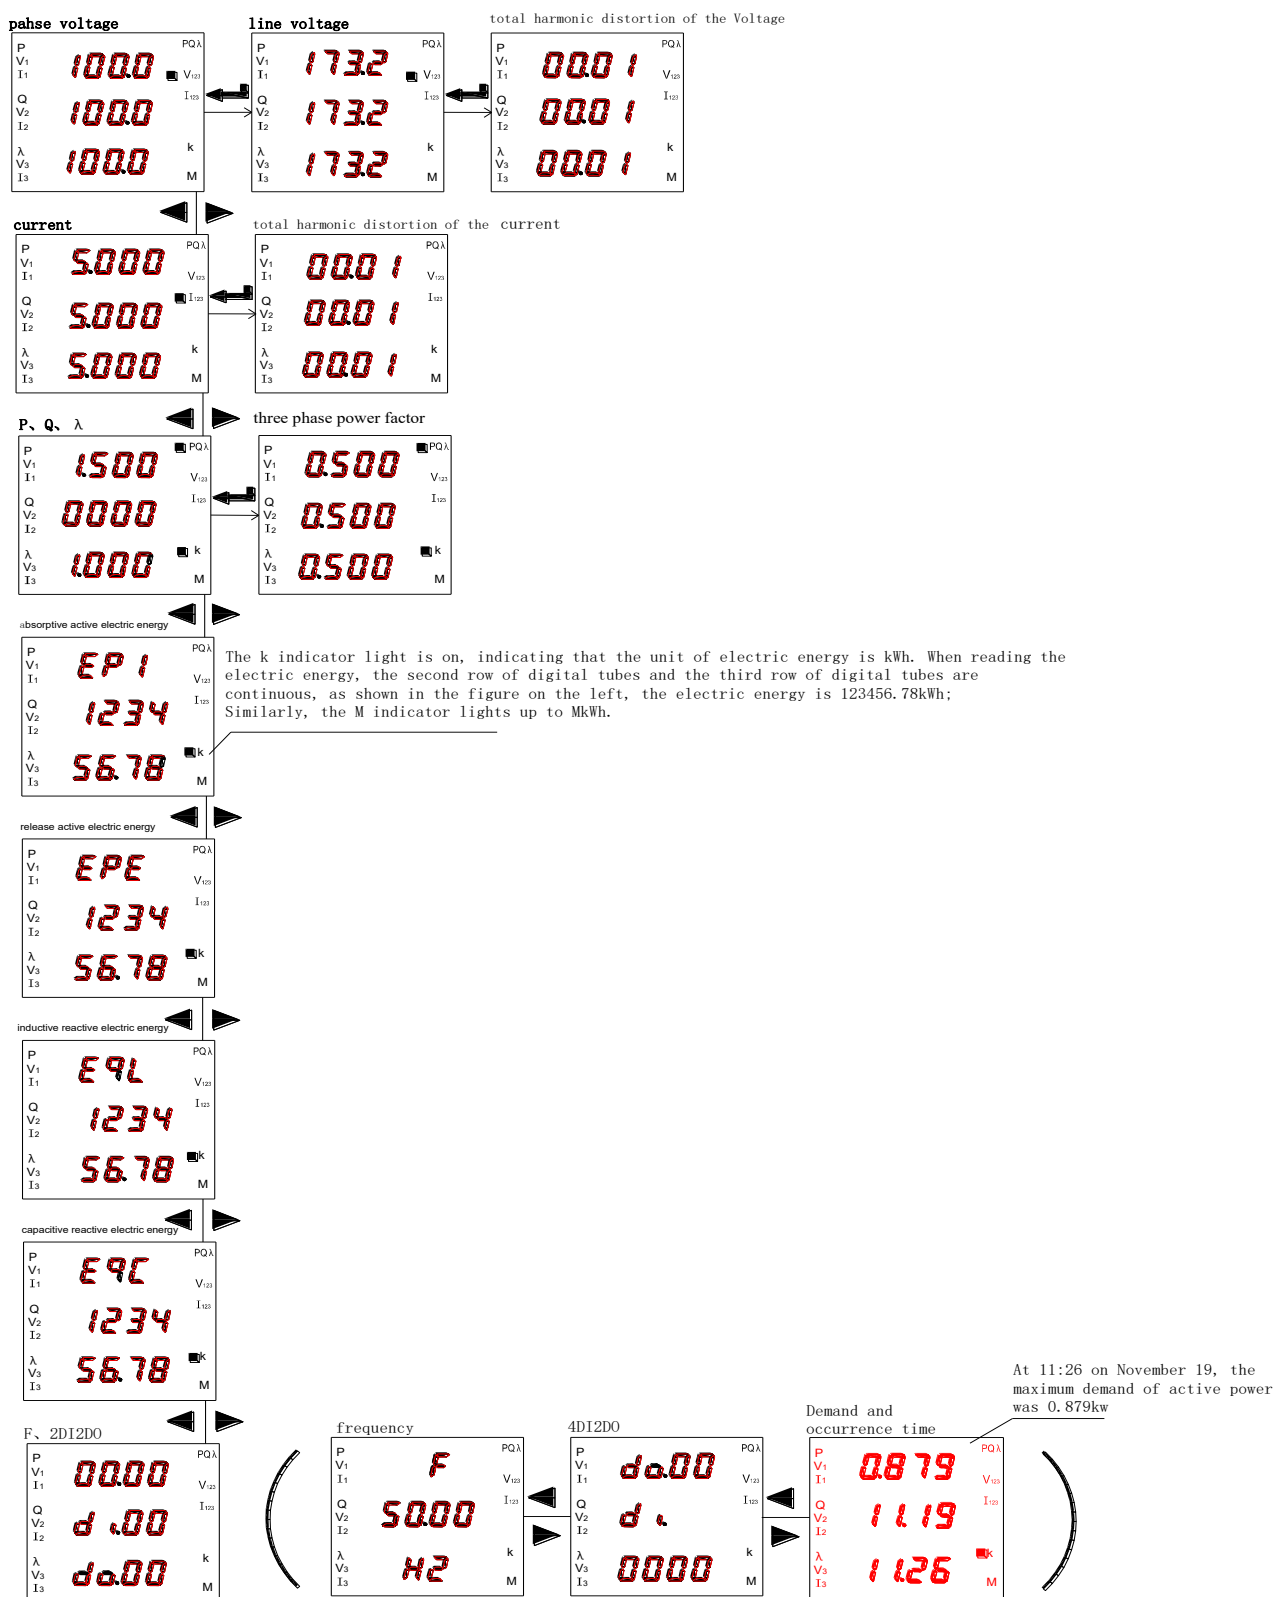
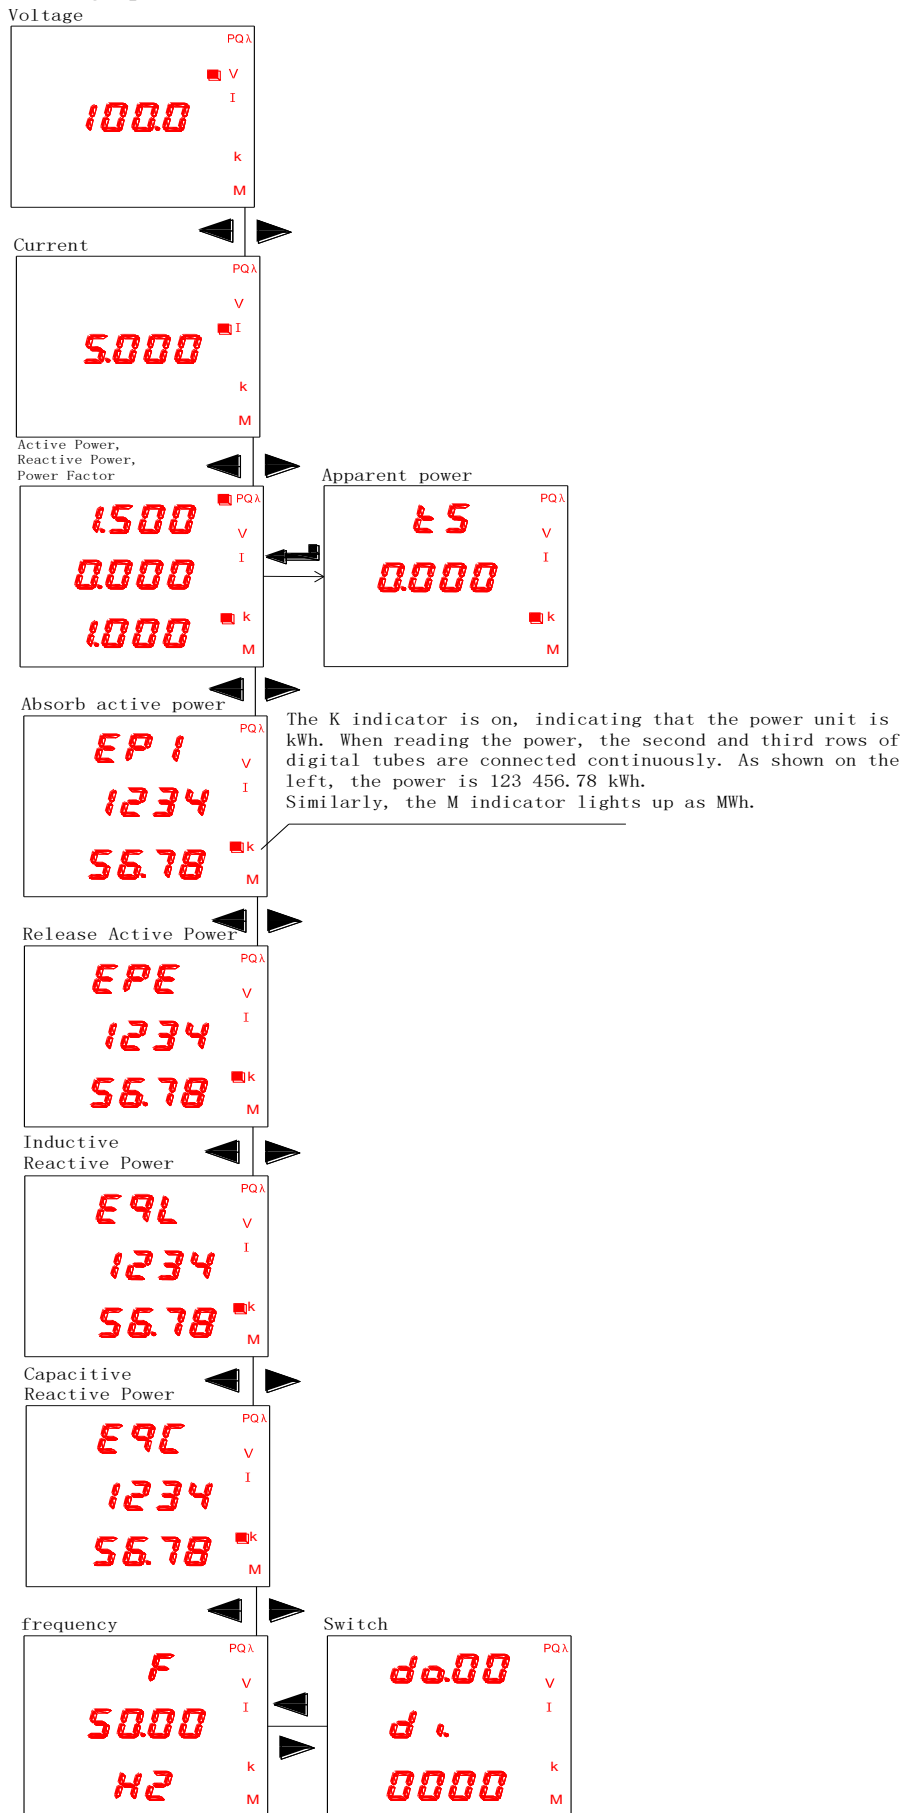

Figure 16
Figure 17
5.2.1 The operation steps of checking the current, voltage, power, electric energy and frequency of PZ72/ 80/ 96 are shown in FIG. 16 and FIG. 17.
5.2.3 The steps for viewing various types of power parameters of the PZ72L/80L/96L are shown in Figure 16,17.